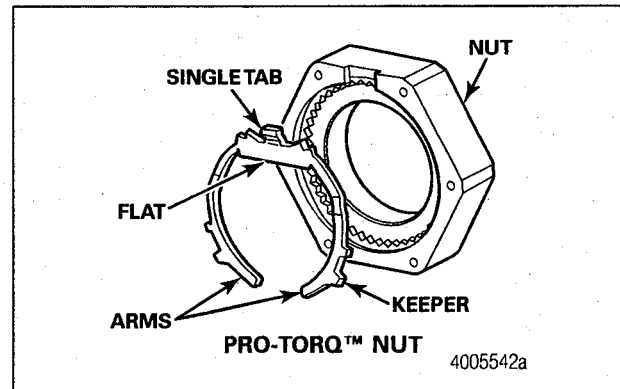

Figure 7
5. Remove the keeper from the PRO-TORQ™ nut before you attach the nut to the axle spindle. Install the thick washer and the PRO-TORQ™ nut onto the spindle. Figure 7.
7. Install a new keeper against the nut with the orange side facing OUT. Do not reuse the original keeper. Replace the original with the new keeper supplied in the field service kit. Align the flat of the keeper with the flat on the spindle. Insert the single keeper tab into the undercut groove on the nut. Engage the mating teeth. Figure 7.
8. Use a screwdriver to compress and insert the keeper arms one at a time into the undercut groove on the nut. Ensure that the keeper tab and arms are fully seated into the undercut groove. Figure 7.